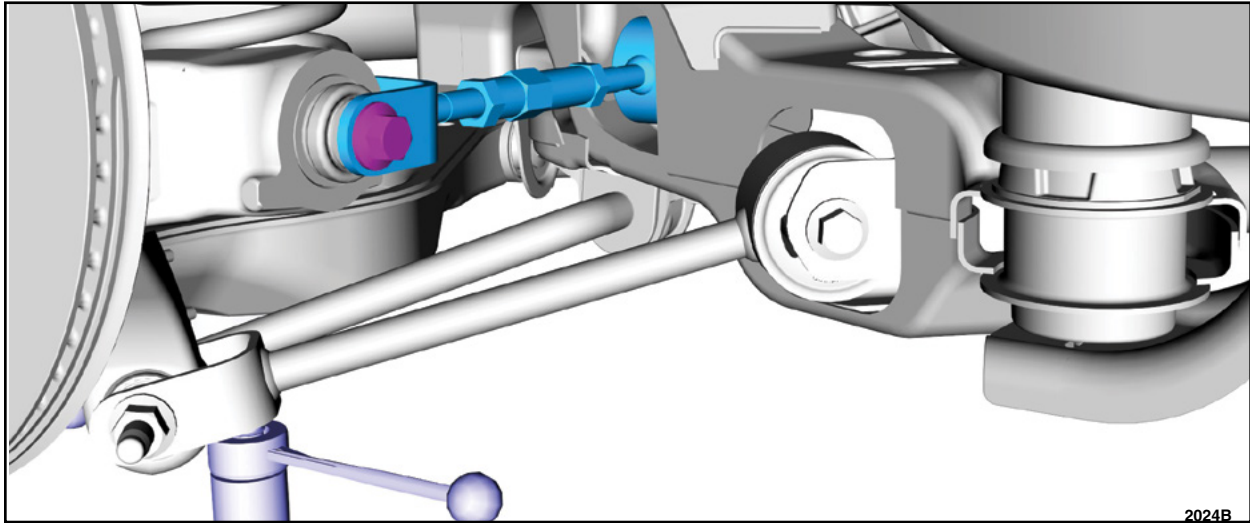

FIGURE 4
6. Remove the toe link-to-wheel knuckle bolt and nut. See Figure 4.